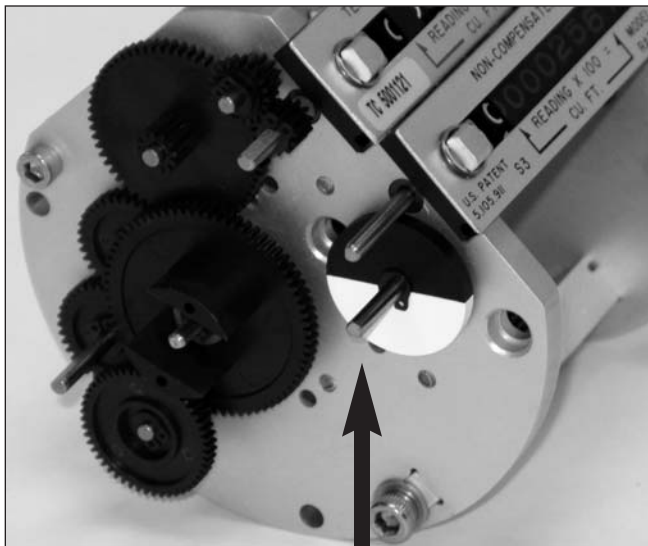

Figure 16 - Movement of the RPM wheel indicates impeller rotation.
- b) Partially open the meter inlet gas valve until the meter starts operating at low speed. Throttling the bypass valve may be necessary to initiate gas flow through the meter. Verify gas is flowing through the meter by watching for movement of the black-and white RPM wheel on the Accessory Unit. The wheel shown in *Figure 16* is visible from either the front or the side of the Lexan® cover. If movement is present, go to Step c). If the RPM dial is not turning, verify gas is being delivered to the meter. If gas is flowing to the meter inlet and the RPM wheel is not moving, go to Step e).